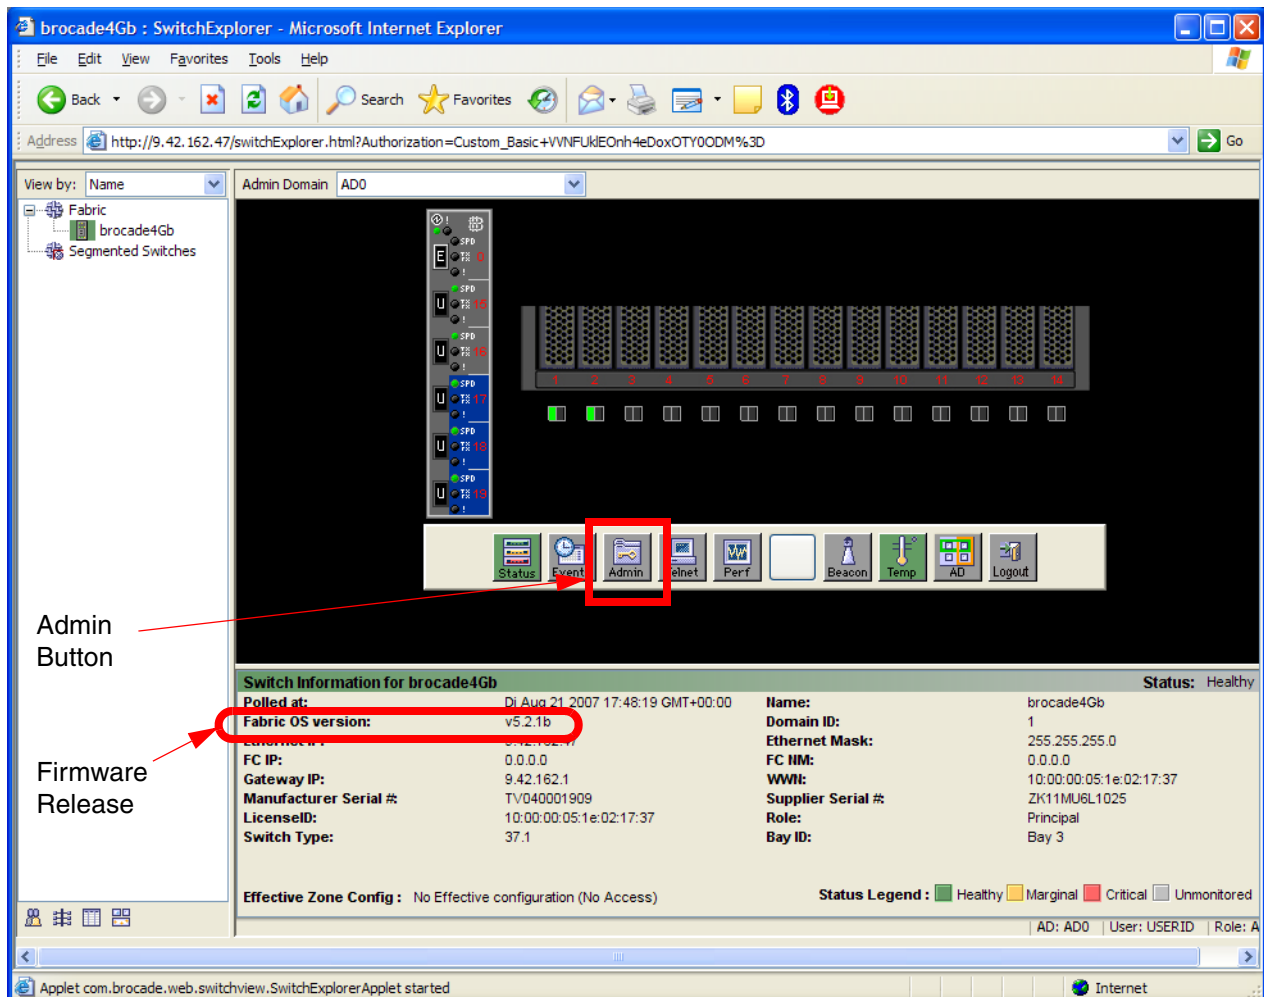
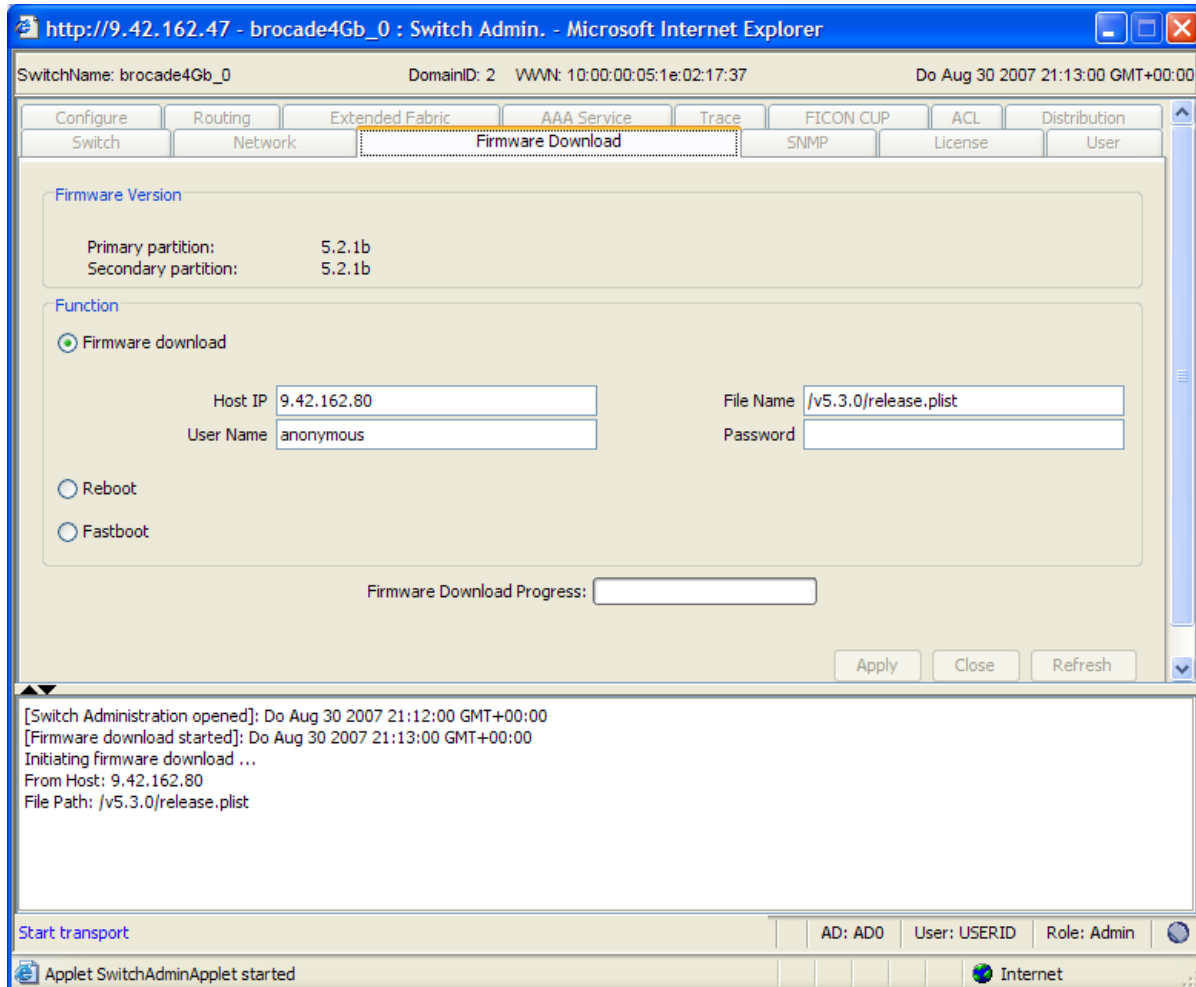

Figure 3-23 Firmware Release
Figure 3-24 Firmware upload
2. Open a browser and log on to the switch with its IP Address. The main window appears, as shown in Figure 3-23.
3. Click the Admin button (as indicated in Figure 3-23) to access the Administrator menus as displayed in Figure 3-24 on page 46.
4. Click **Firmware Download** tab as shown in Figure 3-24.